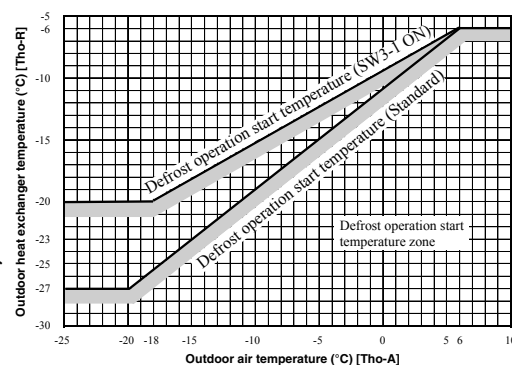
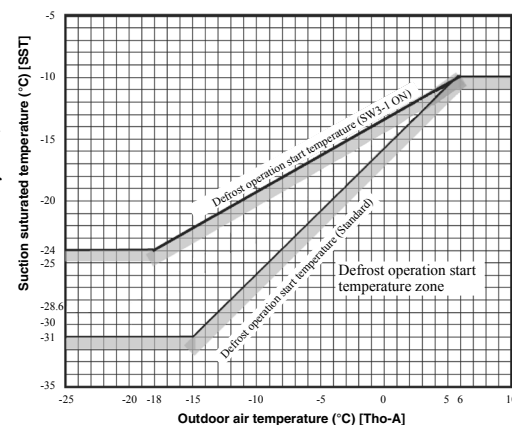

Fig 4-1
Fig 4-2
- iv) After satisfying all above conditions, if the outdoor heat exchanger temperature (Tho-R1, Tho-R2, whichever the lower) and the outdoor air temperature (Tho-A) become lower than the defrosting start temperature as shown in Fig 4-1 for 15 seconds continuously. Or suction gas saturated temperature (SST), which is detected by the low pressure sensor (LPT), and the outdoor air temperature (Tho-A) stay for 3 minutes within the temperature range lower than the defrosting operation start temperature as shown Fig 4-2. However it is not effective during 10 minutes after the start of compressor and if the outdoor air temperature is within the range of LPT invalid as shown in below figure.